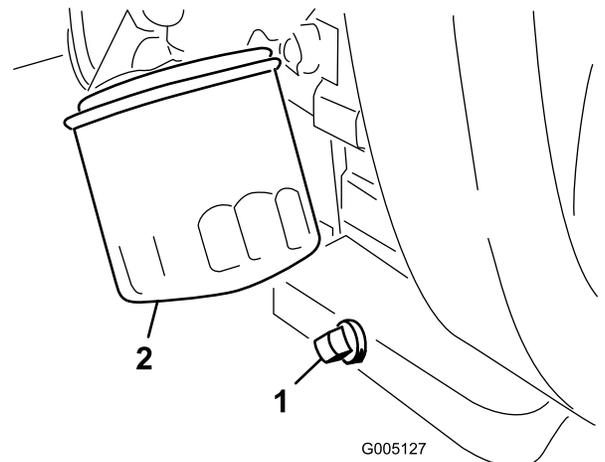

Figure 44
1. Remove the drain plug (Figure 44) and let oil flow into a drain pan. When the oil stops, install the drain plug.
- Remove the oil filter (Figure 44). Apply a light coat of clean oil to the new filter gasket.